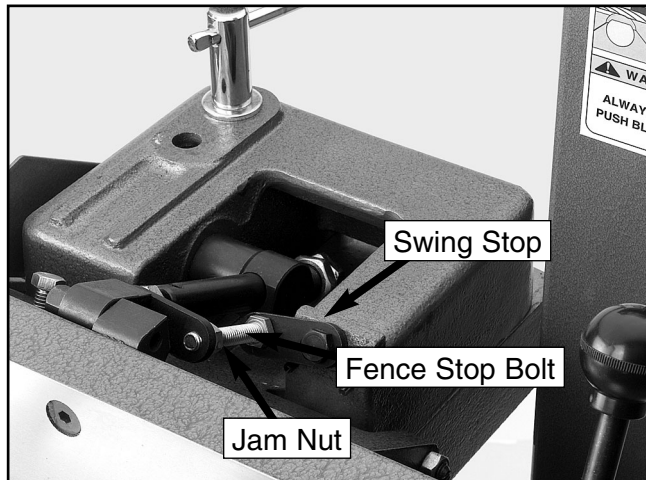

Figure 31. 90° swing stop engaged.
2. Flip the 90° swing stop into the position shown in **Figure 31**.
3. Loosen the jam nut on the 90° fence stop bolt (**Figure 31**).